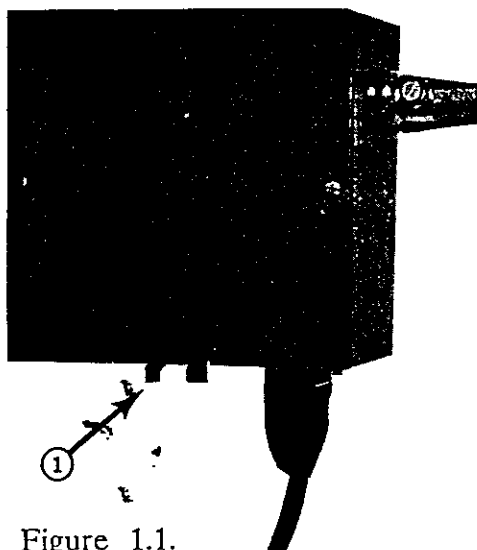

Figure 1.1.
a.) Check reset switch by depressing black button [1], see Figure 1.1. If reset stays engaged then check the left and right move buttons at the front panel.